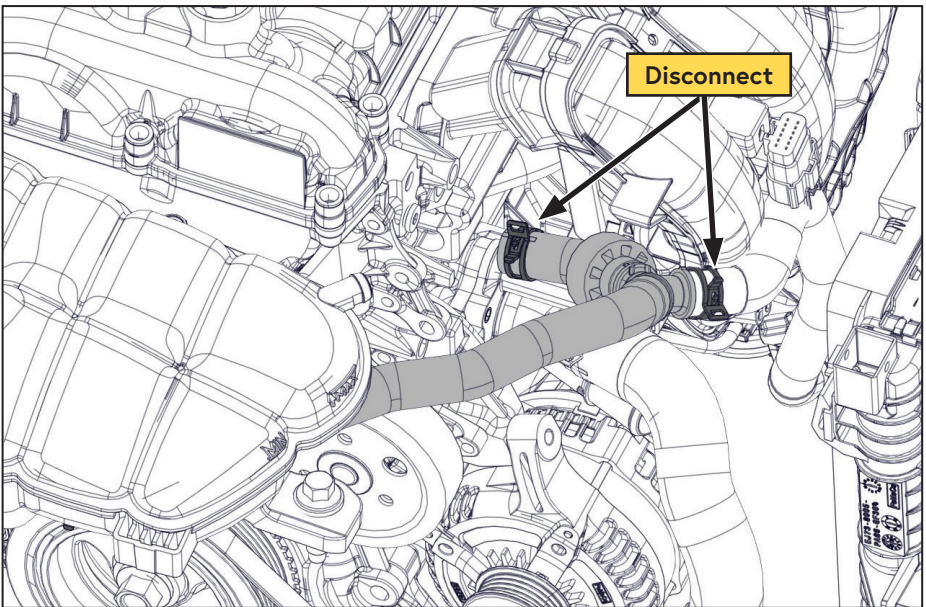

Figure 4 — Disconnect lower degas hose assembly
- Using a clean container to catch the remaining coolant, disconnect the lower degas hose (Figure 4).